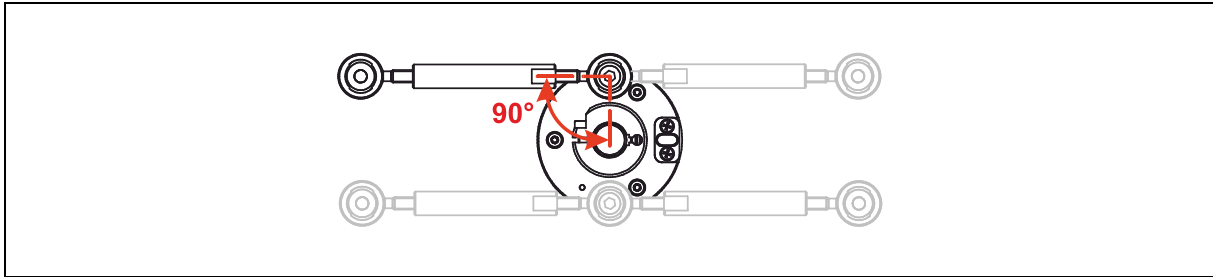

Figure 12: Joint rod mounting variants
- For mounting on the measuring system, the joint rod can be screwed to one of the two M5 threaded holes in the flange. For optimum support of the measuring system, the joint rod must be mounted at a 90° angle to the line connecting of the threaded hole to the center of the shaft, see Figure 12.